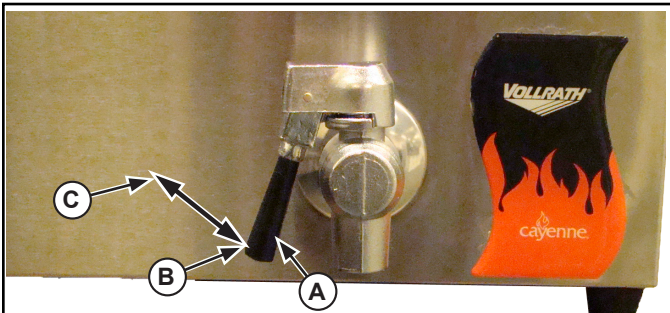

Figure 2. Valve Closed Positions.
4. Place a metal container 3 gallons or larger under the drain valve (A). See Figure 2.
5. Lift drain valve (A) up (C) and slowly rotate to the open position (B). See Figures 2 and 3.
6. After the oil has drained close the drain valve (A) by turning to the closed position (B). See Figures 2 and 3.